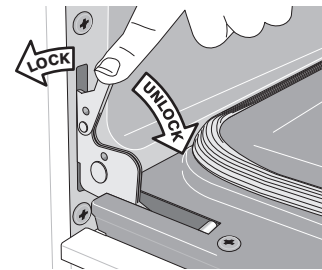

Figure 30: Door hinge locks
2. Pull the door hinge locks on both left and right door hinges down from the oven frame completely towards the oven door (See Figure 30). A tool such as a small flat-blade screwdriver may be required.
4. Push the door hinge locks up towards and into the oven frame on both left and right oven door hinges to the locked position (See Figure 30).